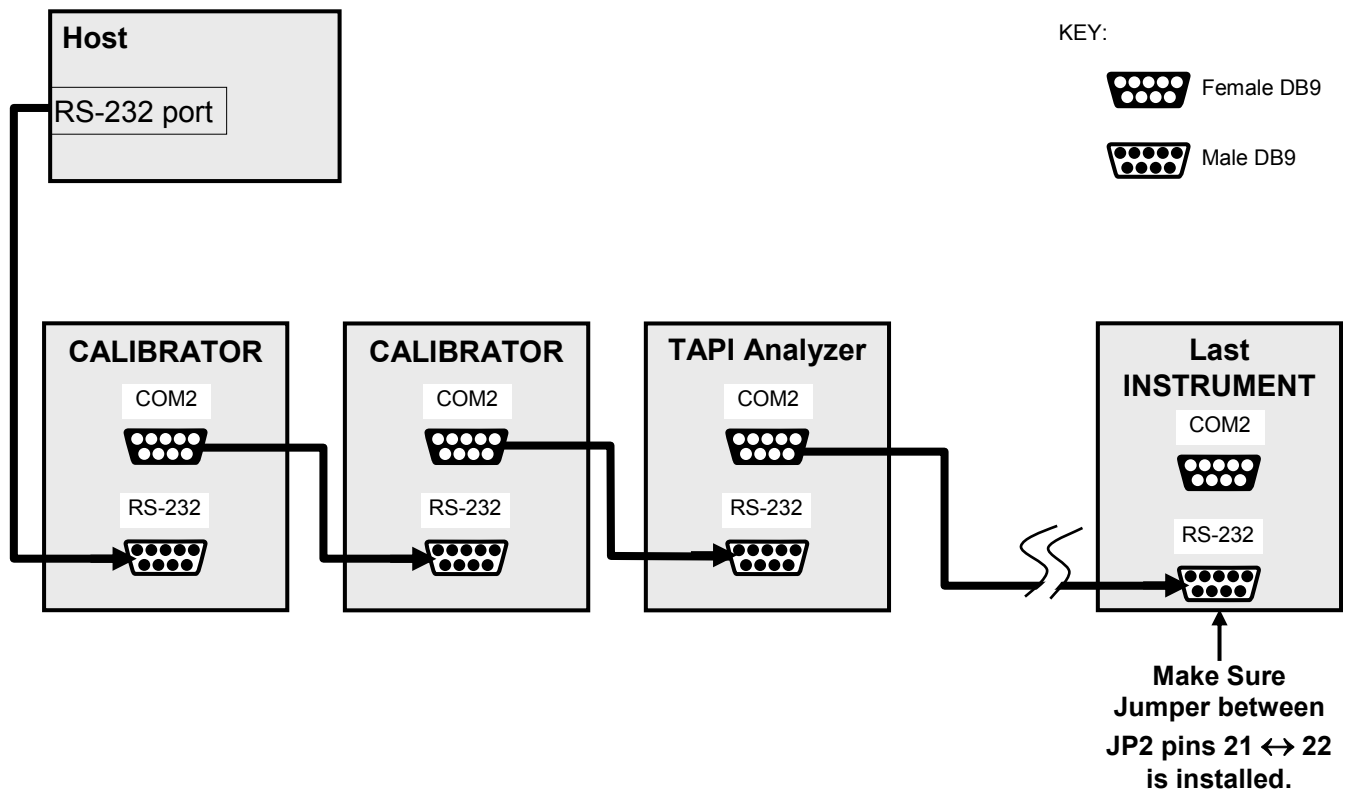

Figure 8-4: RS-232-Multidrop PCA Host/Analyzer Interconnect Diagram
4. Using straight-through, DB9 male → DB9 Female cable, interconnect the host and the analyzers as shown in Figure 8-4.